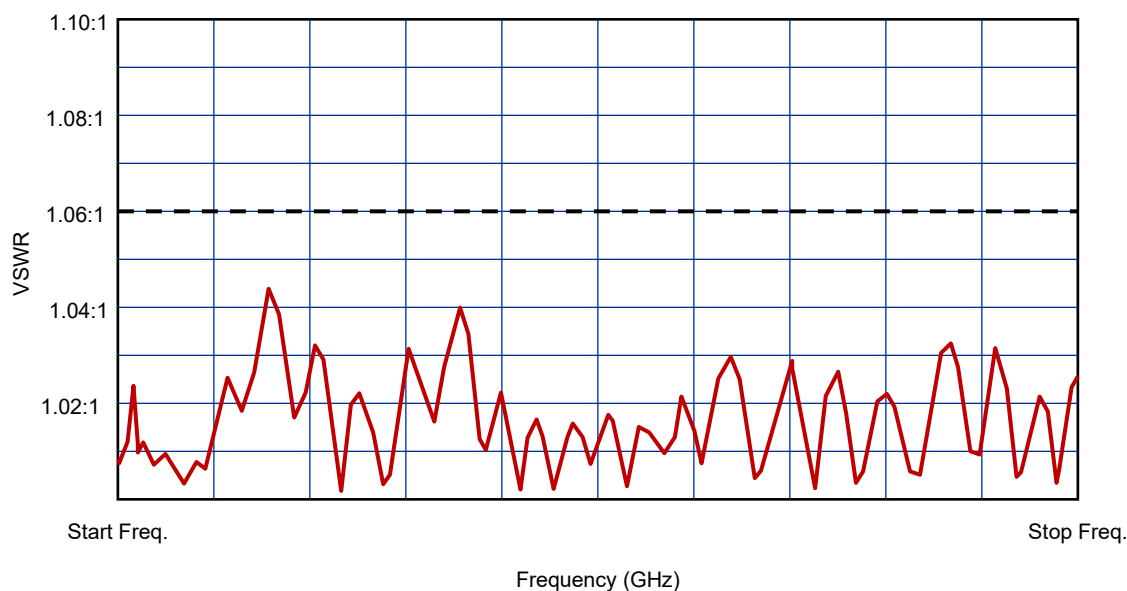

Figure 5. VSWR Display (Probe Retracted)
8. Set VNA controls for a convenient display and verify that the VSWR is as specified in Table 1 over the full frequency range of the tuner per Table 1. The VNA display should be similar to the sample shown in Figure 5.